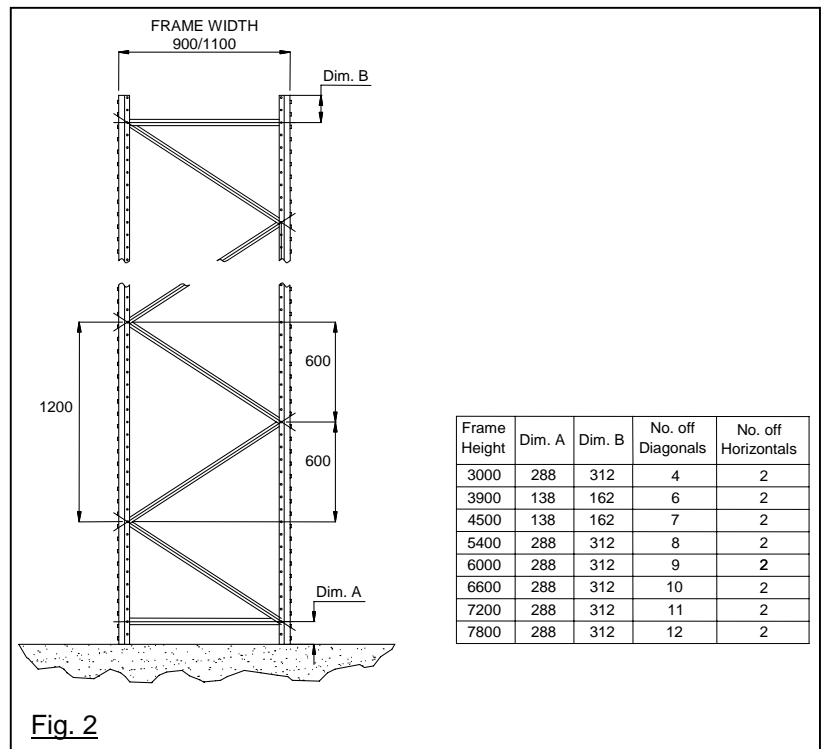

Fig. 2
- STEP 2. Select bracing pattern required dependent on height of racking, Fig. 2